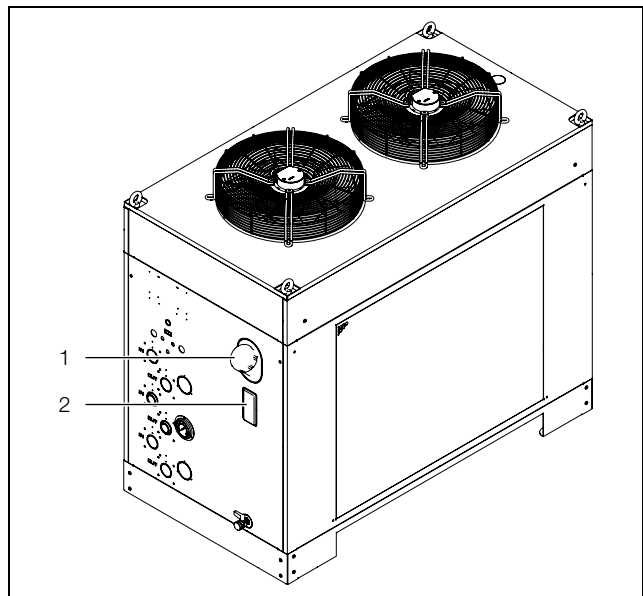

Fig. 25: Filling the cooling medium
- Fill the chiller tank with cooling medium via the fill nozzle (fig. 25, item 1).
- Check the filling level on the container through the opening in the casing (fig. 25, item 2).